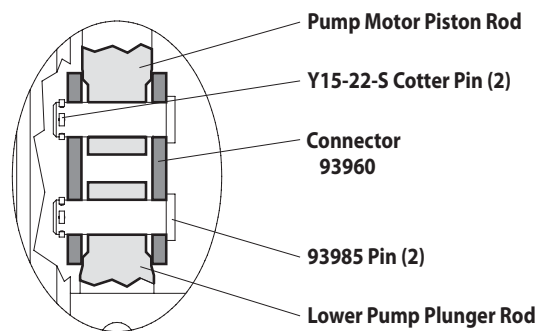

Figure 2
5. Remove the two Y15-22-S cotter pins and remove the two (93985) pins. Remove the 93960 connector (see figure 2).